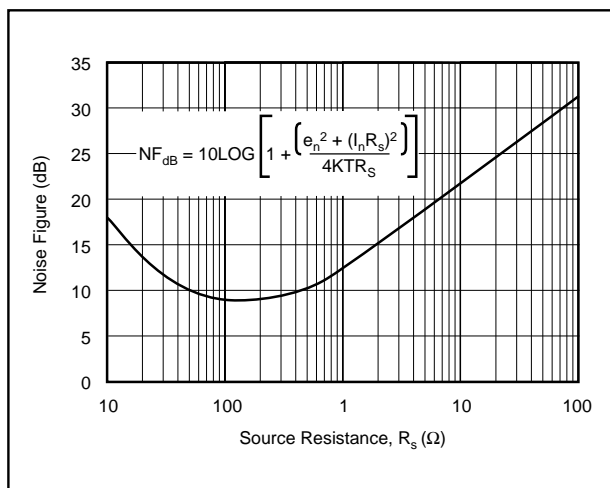

FIGURE 8. Noise Figure vs Source Resistance.
For RF applications, Noise Figure (NF) is often the preferred noise specification instead of Noise Spectral Density since it allows system noise performance to be more easily calculated. The OPA648's Noise Figure vs Source Resistance is shown in Figure 8.